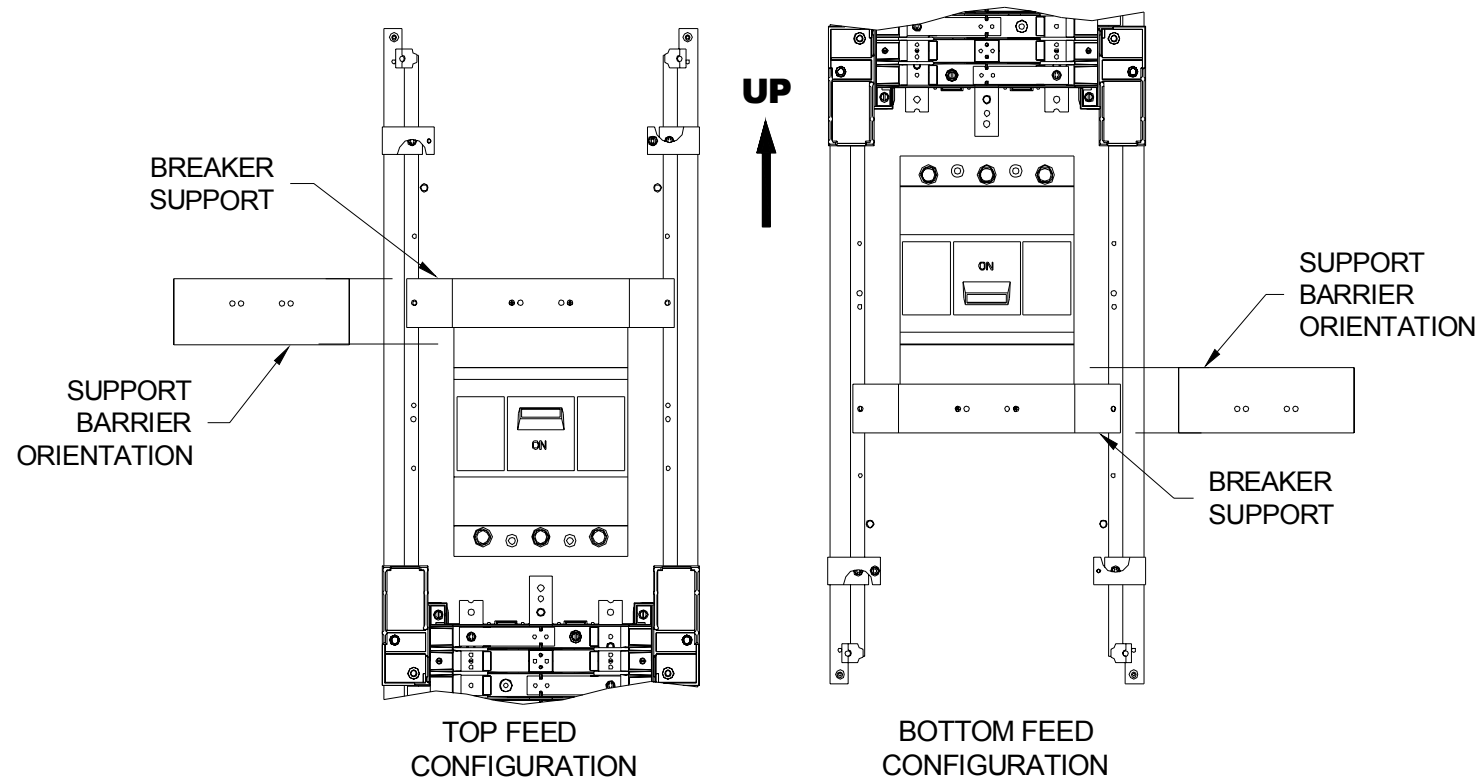
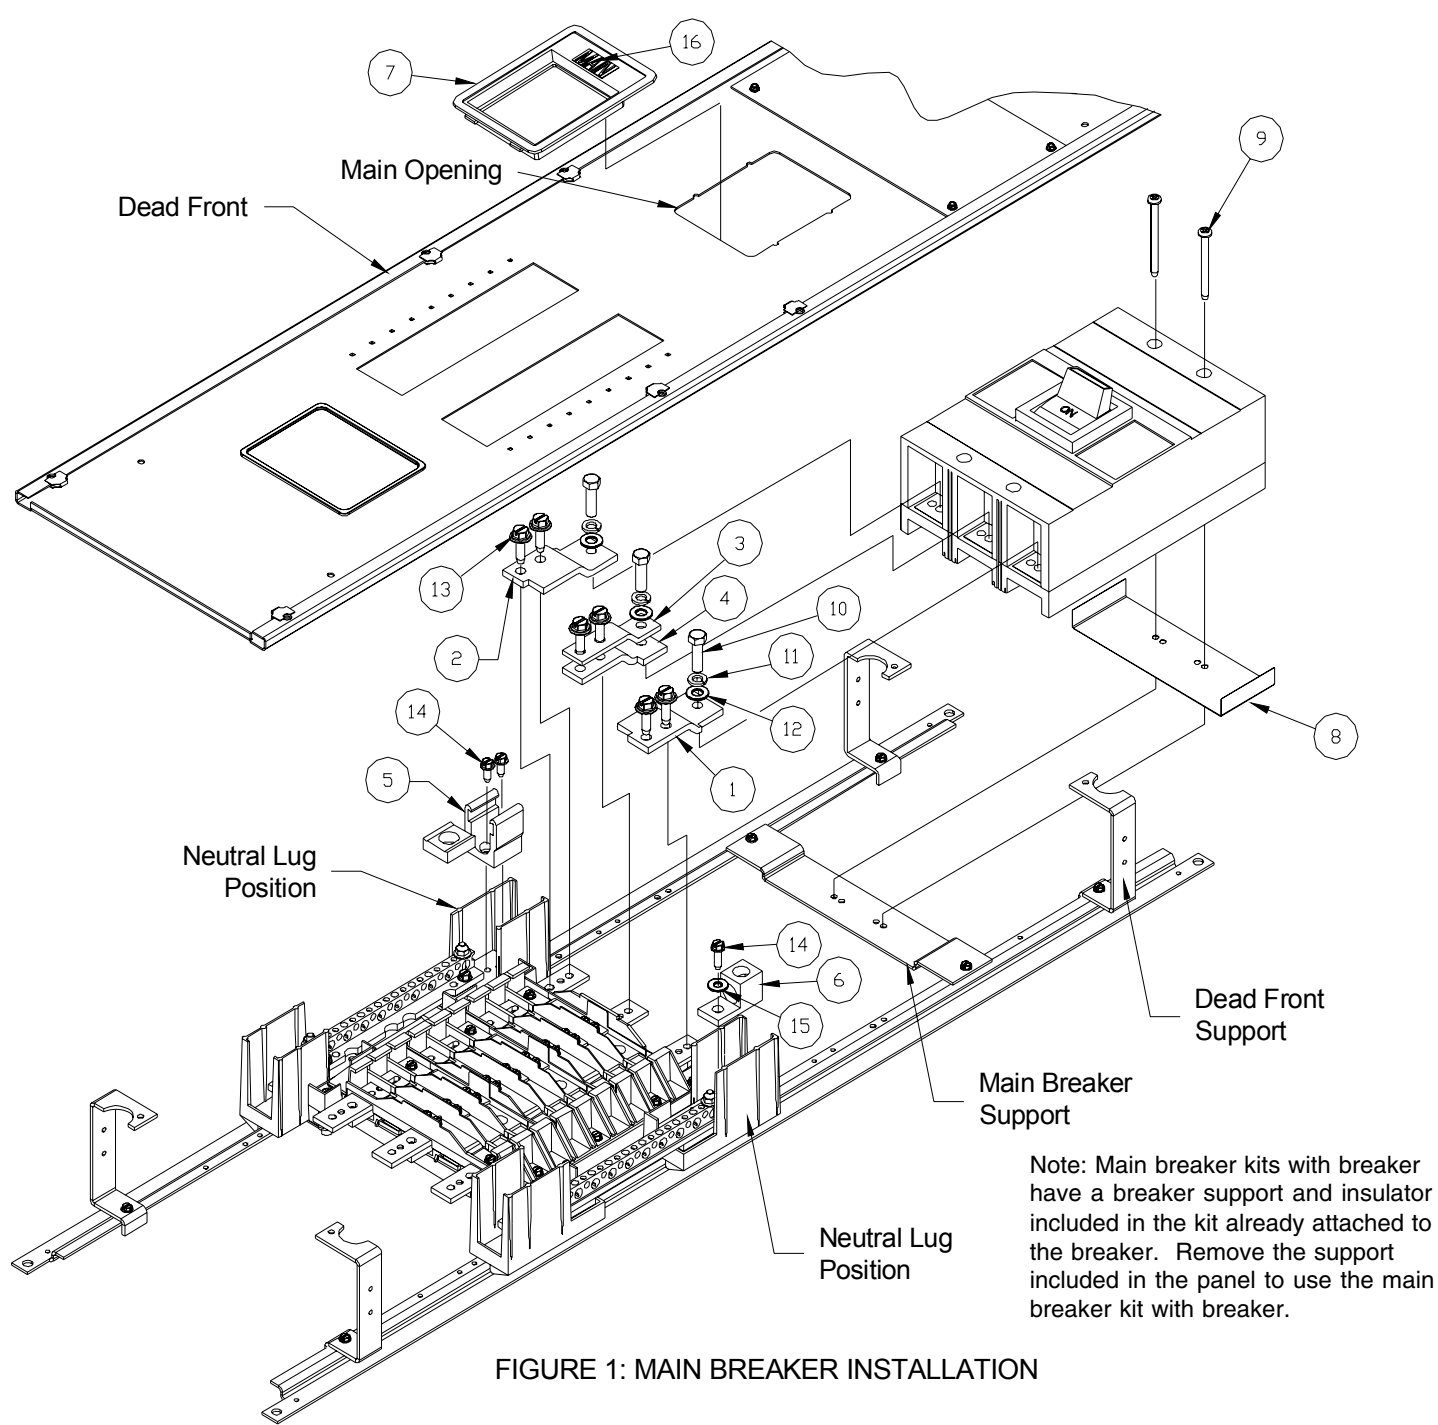

FIGURE 2: TOP FEED AND BOTTOM FEED KIT CONFIGURATIONS
FIGURE 1: MAIN BREAKER INSTALLATION
(1) 600 MCM line cable per phase	Use breaker line lug TA1L6750 or copper lug TC1J6600
- Fasten all breaker connectors to the panel section or main bus using two 5/16"-18 thread forming SEMS screws (item 13) per joint. Torque the screws to the value indicated on the tightening torque label on the rear of the dead front.
- On 1 phase 3 wire systems and 3 phase 4 wire systems, neutral lugs are required. Loosen the wire binding screw in the lay-in lug (item 5), remove the cap plate, and place the lug on the lug pad inside the neutral barrier cavity, as shown. Align the two lug holes with the mounting holes on the lug pad centerline. Fasten the lug with two 1/4"-20 thread forming screws (item 14). Place the tang lug (item 6) in the other barrier cavity, and align its hole with the innermost lug pad hole. See Figure 2 on page 4 for the correct position. Fasten the lug using a 1/4"-20 self threading screw (item 14) with a plain washer (item 15). Torque all lug mounting screws to the values indicated on the tightening torque label on the rear of the dead front.
- Remove the dead front and main lugs, if installed. Refer to Figure 2 on page 4 to determine the correct breaker mounting for the panel's feed location. Insert the two 1/4"-20 x 2-3/4" self threading screws (item 9) through the appropriate end of the breaker case and through the outer holes on the support barrier (item 8) as shown in Figure 1, to retain the barrier during installation. Fasten the breaker to the support.
- Position one of the outer breaker connectors (items 1 & 2) so that the single-hole end rests on the breaker pad and the double-hole end rests on the panel section or main bus. Note that the outer connectors are mirror images and are not interchangeable. Attach the connector to the breaker pad using a 3/8"-16 machine screw (item 10), a helical spring lock washer (item 11), and a plain washer (item 12) as shown. Do not tighten at this time. Repeat the process to attach the other outer connector to the breaker.
- 3 phase panels require a B-phase connection. Stack the upper B-phase connector (item 3) above the lower connector (item 4). Attach the single-hole ends to the center pole breaker pad using identical hardware (items 10, 11, & 12) as for the outer connectors. Do not tighten at this time.